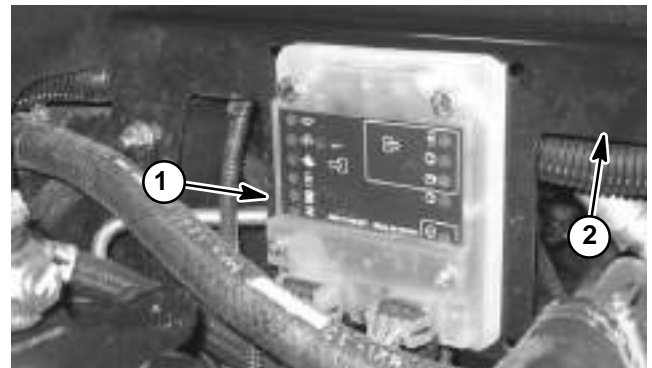

Figure 53
3. Raise and support operator seat. Locate neutral sensor (Fig. 53).
The parking brake sensor is a normally open proximity sensor that mounts to the brake lever assembly (Fig. 53). The sensing plate for the brake sensor is the parking brake detent.
Groundsmaster 360 machines with 2WD are equipped with a Standard Control Module (SCM) to monitor and control electrical components required for safe operation. The SCM is attached to the frame under the operator seat (Fig. 53).